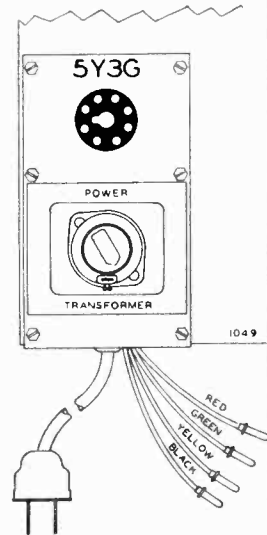

FIG. 2—MODEL 62-381X A. C. POWER UNIT
2. For 100-250 volts, 40/60 cycle operation; see Fig. 2.
5. Place the model 62-381X A.C. power unit (see Fig. 2) on the top of the radio chassis and plug the four flexible leads into the pin jacks on the chassis connector strip.